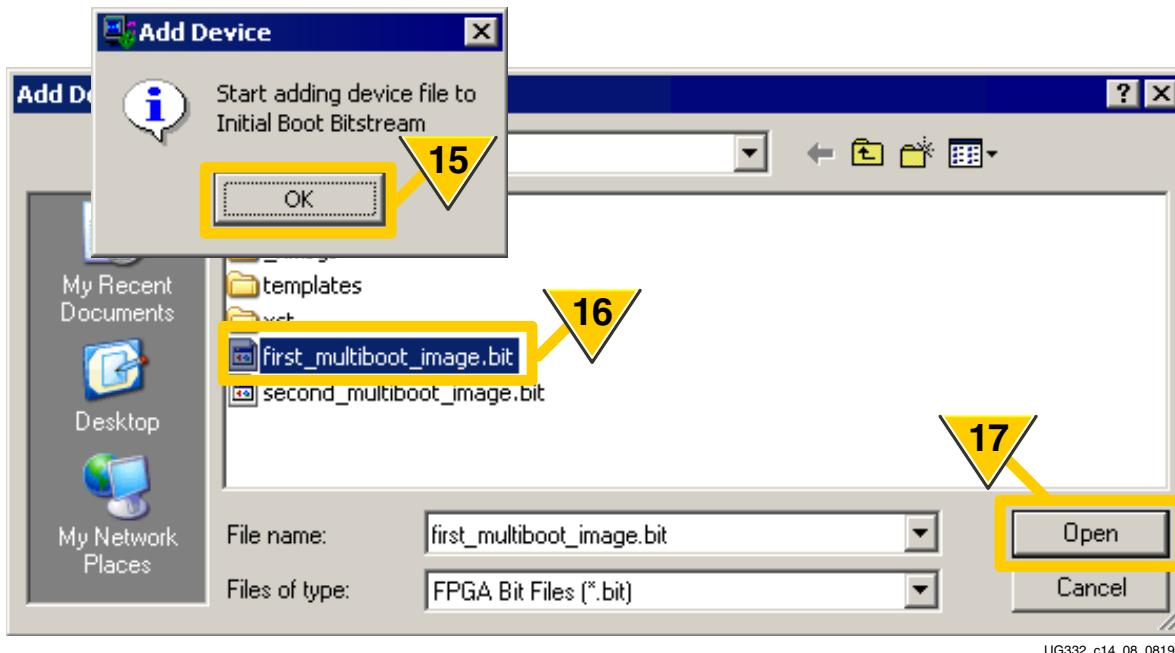

Figure 14-7: Select the First MultiBoot Configuration Image
- As shown in Figure 14-7, start selecting the FPGA configuration bitstream for the design that initially loads at power-up or when the PROG_B input is pulsed Low.